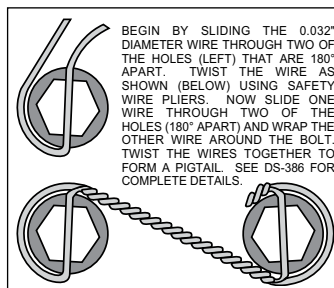

Figure 4. Safety Wire Diagram
- Orient the rotor (9) and the rotor adapter (8) as shown in Figure 2 and Photo 4. Attach the rotor to the adapter using bolts (10). Apply red *Loctite*® 271 to the bolt threads and torque to 25 ft-lb using a criss-cross pattern. Safety wire bolts using standard 0.032 inch diameter stainless steel safety wire as shown in Figure 4. Refer to Wilwood's data sheet DS-386 (available at [www.wilwood.com/Pdf/DataSheets/ds386.pdf](http://www.wilwood.com/Pdf/DataSheets/ds386.pdf)) for complete safety wire installation instructions.
safety wire as shown in Figure 4. Refer to Wilwood's data sheet DS-386 (available at [www.wilwood.com/Pdf/DataSheets/ds386.pdf](http://www.wilwood.com/Pdf/DataSheets/ds386.pdf)) for complete safety wire installation instructions.